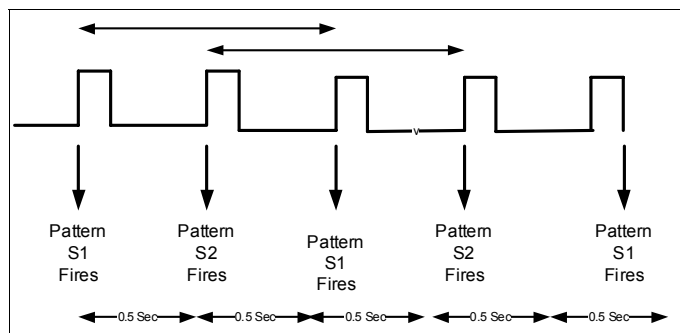

FIG. 1: TWO SYNC PATTERNS ARE ½ SECOND APART
4. **Sync Pattern:** The GEMC-NACXX or GEMC-XXXMB have two sync patterns: S1 and S2. A synchronized NAC output must be assigned to S1 or S2. The two sync patterns are ½ second apart as shown in Fig 1 below. S2 is referred to as the "offset" since it is offset ½ second from S1.